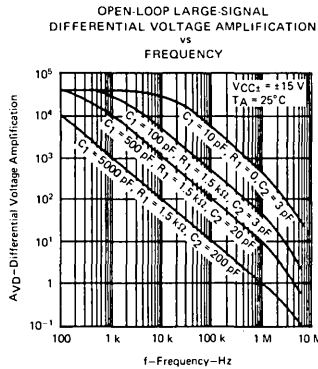

FIGURE 14
**FREQUENCY COMPENSATION CIRCUIT FOR FIGURES 14, 15, AND 18**